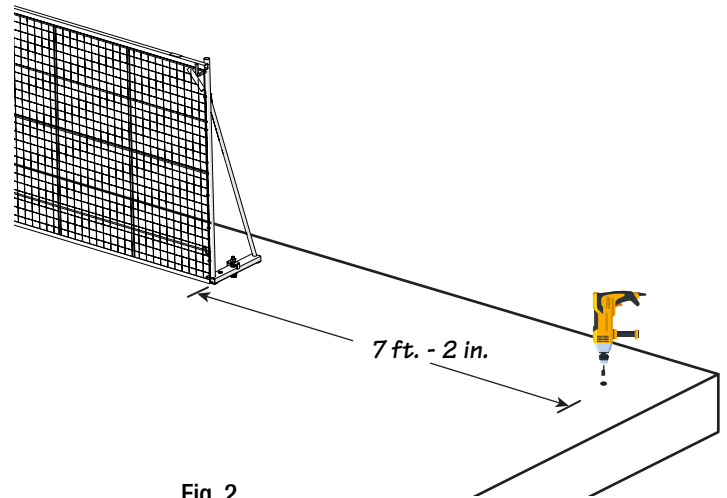

Fig. 2
2. Drill hole for Floor Bracket anchor or plug, with concrete drill. Anchors specified on page 9. Fig 2.
2. Unwind the plug/ anchor. Fig 2.